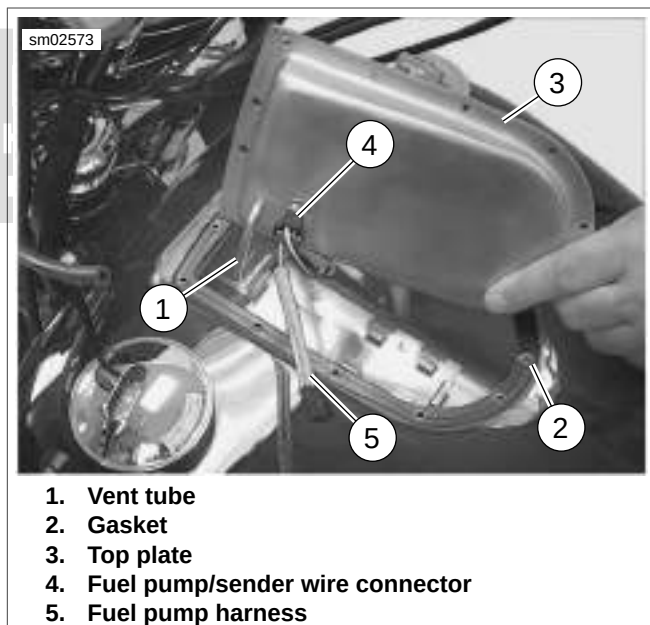

Figure 7-53. Top Plate
3. See Figure 7-53. Place **new** gasket (2) under top plate. Align gasket with screw holes.
4. Install fuel pump/sender wire connector (4) on top plate (3).